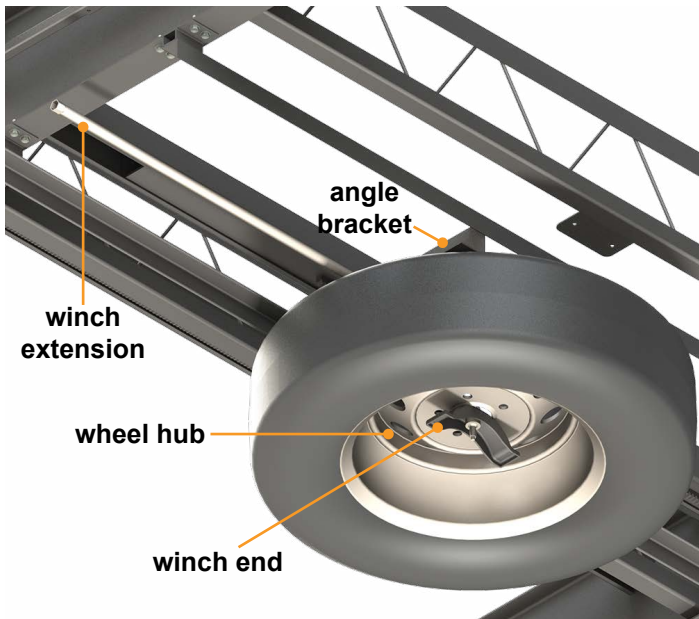

Fig.3
1. Using a scissor jack crank handle or a $\frac{3}{4}$ " socket or wrench applied to the end of the winch extension (**Fig.3**), unwind the winch cable by turning the winch extension counterclockwise until the winch end is on the ground. See following procedure To Stow Tire.
1. Using a crank handle or a $\frac{3}{4}$ " socket or wrench applied to the end of the winch extension (**Fig.3**), unwind the winch cable by turning the winch extension counterclockwise until the tire is on the ground.
1. Place the tire underneath the spare tire carrier and thread the end of the winch inside the wheel hub opening and tire rim. (**Fig.3**).